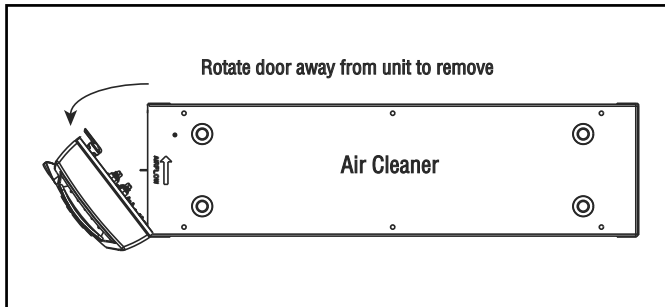

Figure 10
Step 2: Rotate the door to fully remove from the air cleaner. See Figure 10.